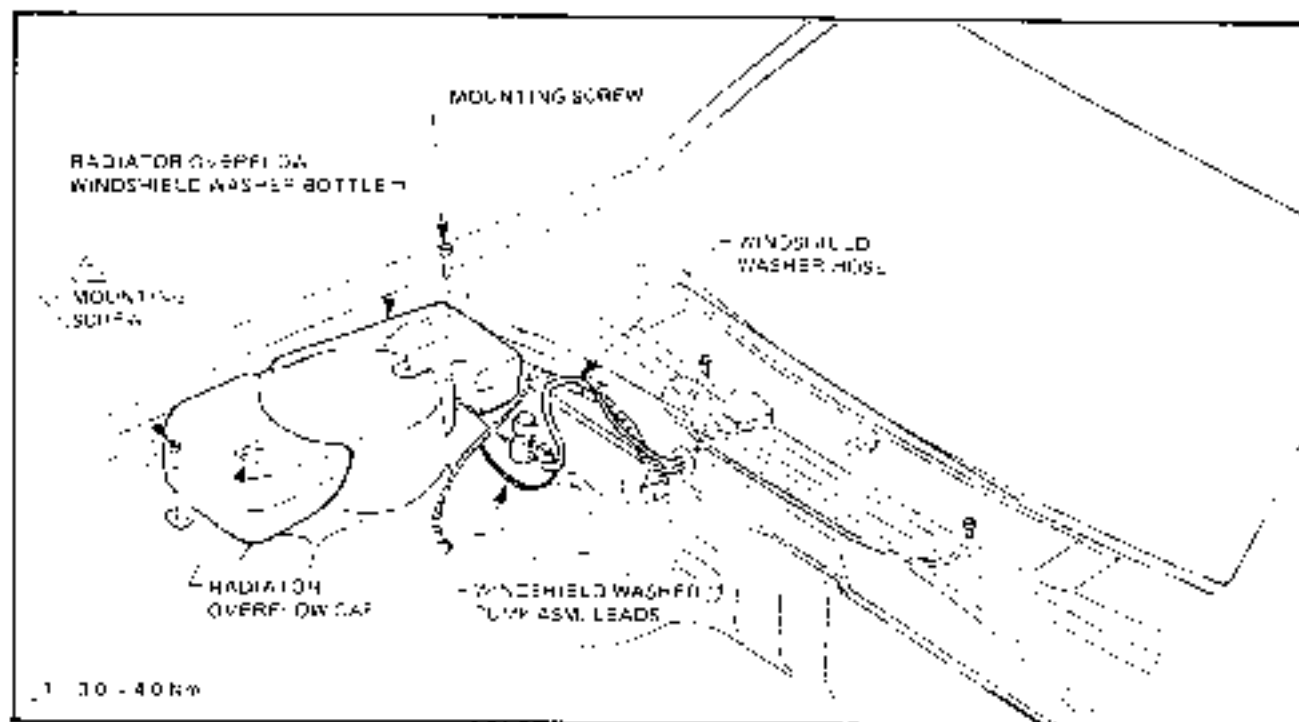

Figure 6B-1
The radiator overflow/windscreen washer bottle has been redesigned and repositioned (Fig. 6B-1).
3. Remove two mounting screws (Fig. 6B-1) and lift bottle assembly out from its position.